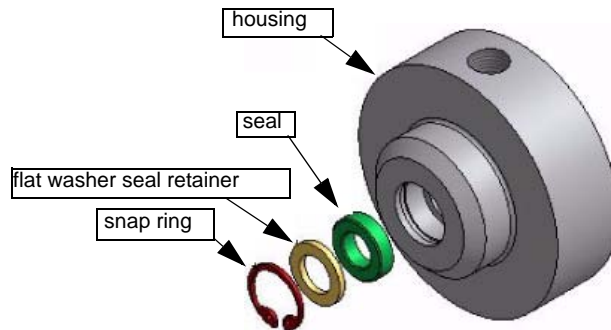

Figure 5-36: Coolant Housing Assembly Components
3. Remove the Snap Ring (Figure 5-36) with the set of internal snap ring pliers. Use the small flat-tip screwdriver to lift the Flat Washer Seal Retainer out of Housing bore. Remove the Seal in the same fashion.